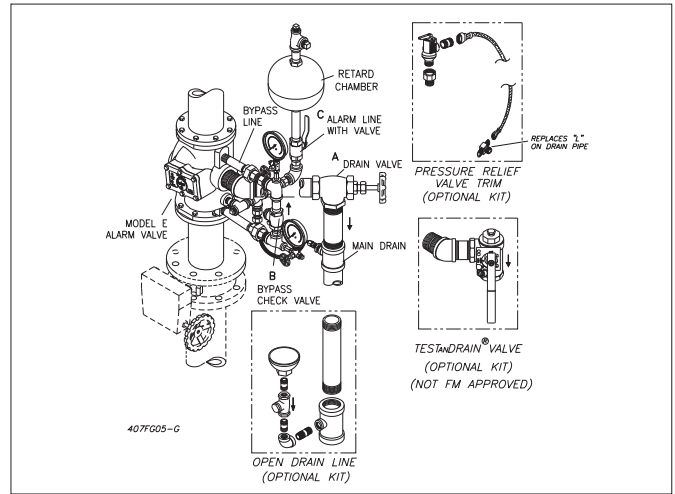

Fig. 3
- a. The By-Pass connection with Check Valve (Figure 3 & 4) allows pressure surges from the supply to by-pass the Alarm Valve Clapper. An excess system pressure is thus created which steadies the Clapper. Should a heavy surge unseat the Clapper and permit water to flow into the alarm line, the Retard Chamber then comes into action.
The E3 trim sets for the Reliable Model E Alarm Valve (Figs. 3 & 4) are arranged for rapid, easy and compact attachment, and serve as connection points to Reliable alarm and other devices. They also act as a means for testing the system to operate. The Model E alarm valves are available in two trims and may be installed in the vertical or horizontal position in the main supply to the wet pipe system:
- **Variable Pressure with Open Retard Chamber Drain**—Retard chamber is required. Optional Drain Line Kit required (see Figs. 3 & 4). This trim set is used where water supply pressures vary. An open drip cup is provided to drain the retard chamber and the mechanical sprinkler alarm line. This drain connection should be piped separately from the 2" main drain.
- The trim set permits both vertical (Fig. 3) and horizontal (Fig. 4) installations.
- A TestANDrain® valve segment is optional, to be purchased separately, as a replacement to the Drain valve (see optional Kit in Figs. 3 & 4).
- All trim sets can be fitted with an optional Pressure Relief Trim Kit (see optional kit in Figs. 3 & 4) to relieve pressures above 175 psi in the sprinkler system, as required by NFPA 13, 3-1.2.